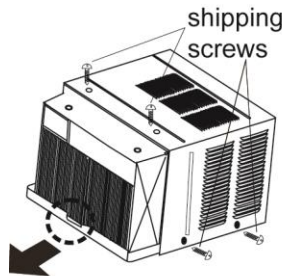

Fig.5
- Take out the shipping screws from the top and sides of the unit. (Figure 5)